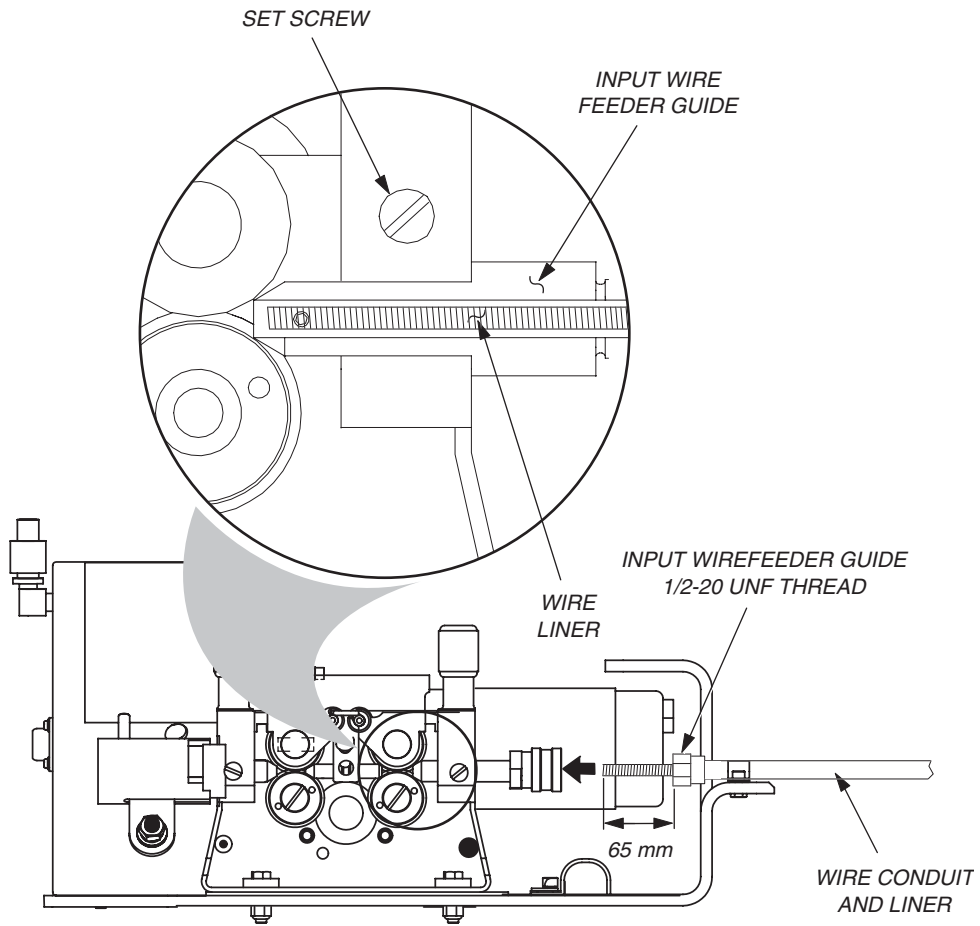

Figure 8 Conduit Guide Installation
7. Guide the wire liner into the input wire feeder guide and past the set screw (see Figure 8). Do not push liner past input wire feeder guide.